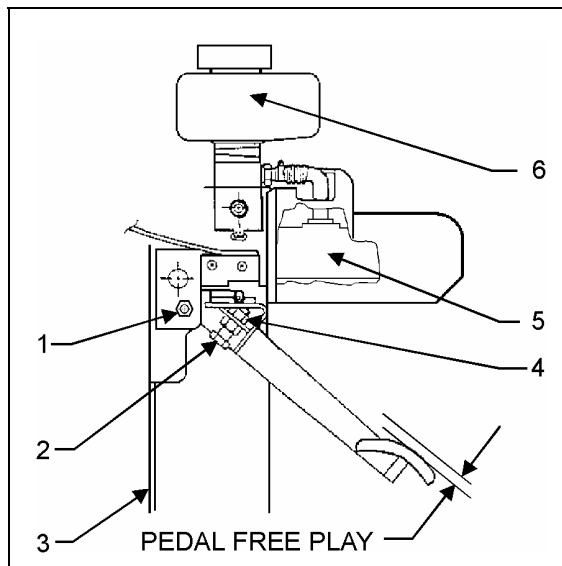

FIGURE 1: FREE PLAY ADJUSTMENT
1. Free play adjustment is made by loosening nut (1, Fig. 1) and moving bolt in slot. The pedal moves down allowing a 1/4" (6 mm) of **free play** before the master cylinder (5, Fig. 1) starts to move.
2. Keep this adjustment by tightening nut (1, Fig. 1).
4. Loosen the adjustment bolt (2, Fig. 1) until it touches the pedal wall support (3, Fig. 1).
5. Loosen the adjustment bolt (2, Fig. 1) for another 1-1/2 turn. Lock in position by tightening nut (4, Fig. 1).